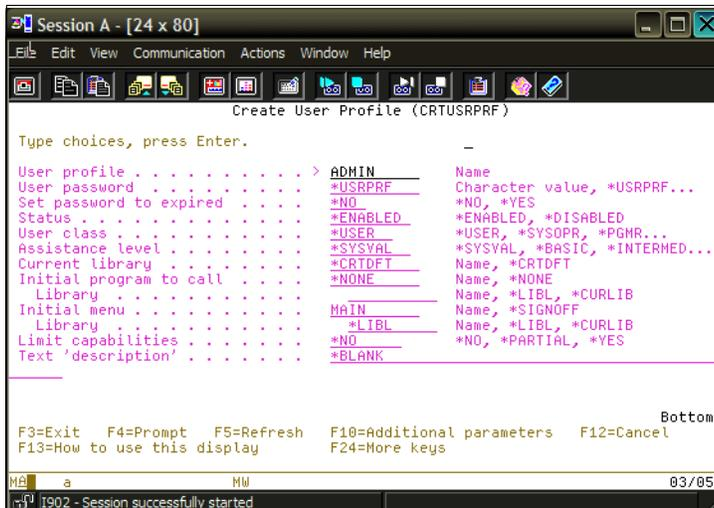

Figure 11-7 User Profile on i5/OS
- ▶ Create a user profile in i5/OS. For example, create the user called **fred** as shown in Figure 11-7.